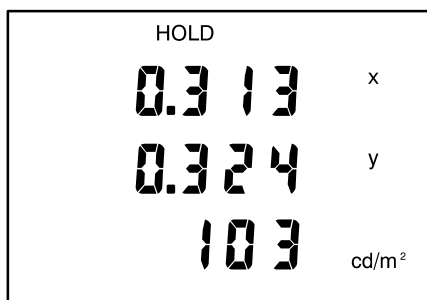

Figure 2-1: Measurement with **HOLD**
1. Press the **HOLD/RUN** button to stop the measurement. See Figure 2-1.